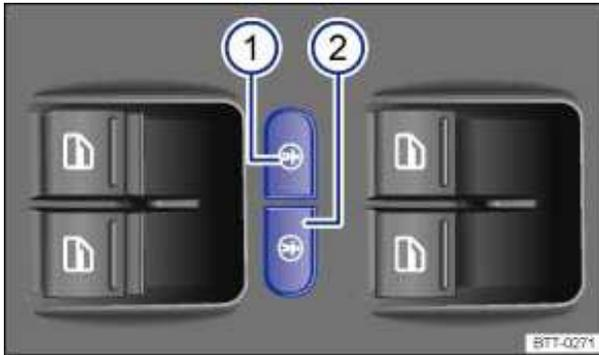

Fig. 27 In the driver door: Buttons for the electric child safety locks.
The electric child safety locks keep the rear doors from being opened from the inside, so that children cannot open them accidentally. The rear power window switch for the selected side is also disabled. The controls for the power windows and door locks can be operated separately (left or right) to prevent restrictions being placed on an adult passenger seated in the back with a child. The left button => fig. 27 \(1\) and the right button (2) switch the child safety lock on for either the left or right side, respectively.